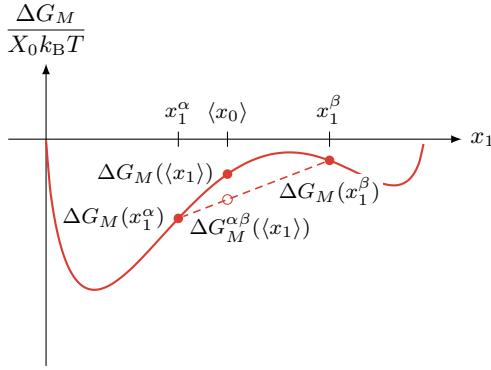

Figure 2.26: Tie lines predict the favorability of demixing.
- Therefore, if the tie line lies above the curve, demixing will raise the energy of the system and will not occur. If the tie line lies below the curve, demixing will lower the energy of the system and will occur. As such, with the choices of $\langle x_1 \rangle$, x_1^α , and x_1^β in Figure 2.26, mixing will occur.